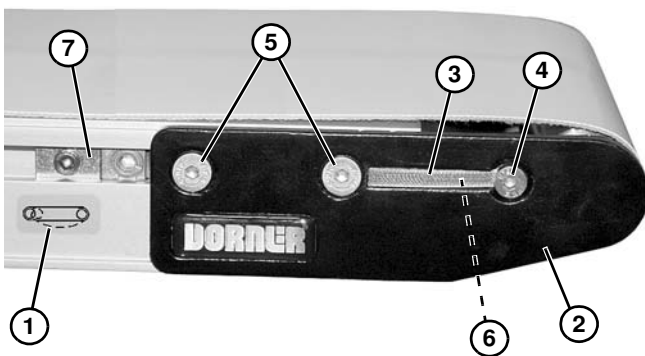

Figure 54
1. On tension end of the conveyor, identified with a  label (**Figure 54, item 1**), adjust headplate assembly (**Figure 54, item 2**):
- a. If equipped with dust covers (**Figure 54, item 3**), remove screw (**Figure 54, item 4**) and dust cover on both sides of conveyor. Reinstall screw (**Figure 54, item 4**).
- b. On both sides of conveyor, loosen fastening screws (**Figure 54, item 5**) and rotate pinion gear (**Figure 54, item 6**) to adjust headplate assembly.
3. After adjusting proper tensioning, tighten fastening screws (**Figure 54, item 5**) on both sides of conveyor to 7 Nm.
4. If equipped, install dust covers (**Figure 54, item 3**).
5. If equipped with cam tracking assemblies (**Figure 54, item 7**), position against headplates and adjust belt tracking. Refer to “Conveyor Belt Tracking” on page 26.